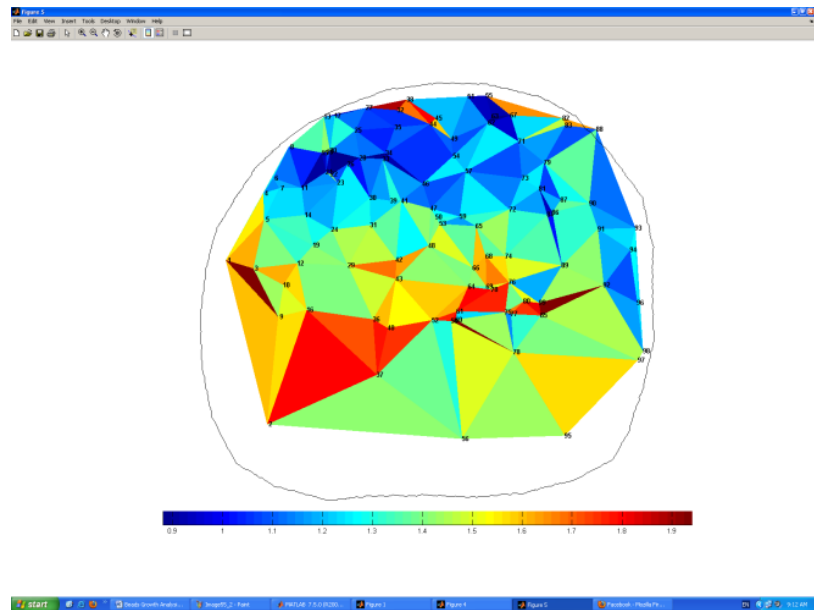

Figure 19. Color gradient on the growth map
9. The program will construct a growth map for the pair of DASS based on the relative change in distance and angle between matched beads. Triangles of red color indicate regions of strong growth, where as triangles of dark blue color indicate regions of weak growth. A gradient from red to blue is expected starting at the leaf base (Figure 19).